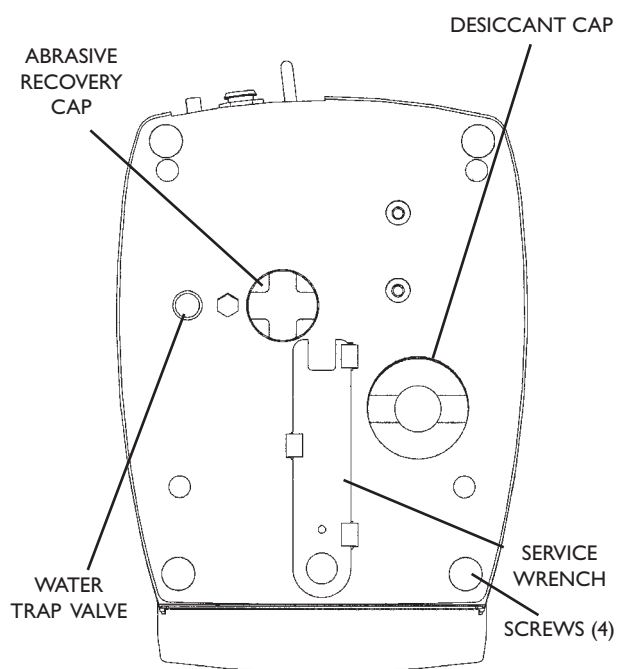
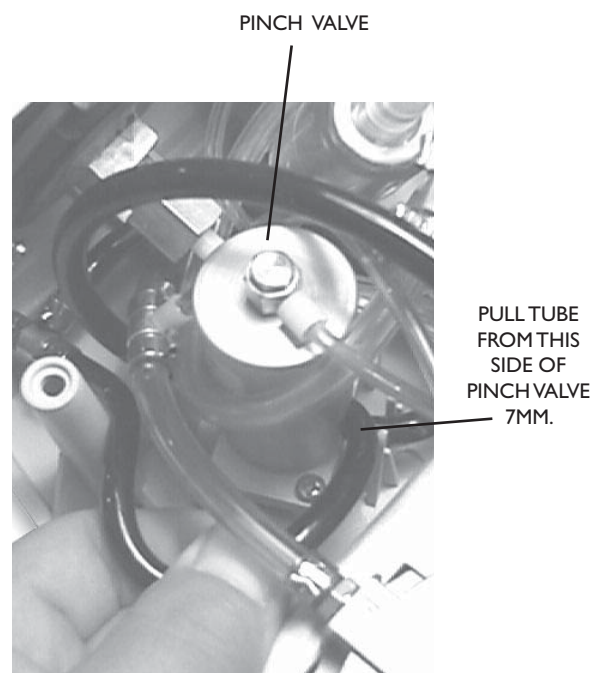

Figure 4.3
Figure 4.4
A. Desiccant chamber: Inspect the desiccant granules through the view window located in the bottom of the unit (see Fig. 4.3). The blue indicator granules will turn white when contaminated.
C. Waste Powder Chamber: Unscrew the Abrasive Recovery Cap (see Fig. 4.3) using the Service Wrench. Remove any abrasive from the chamber, clean the threads and replace the cap. Do not over tighten.
D. Moisture trap: Very minimal, or no moisture should be found. While the PrepStart is pressurized and held in a horizontal position, depress the trap stem (see Fig. 4.3) with a finger tip: compressed air, and any moisture will be expelled. If more than a few drops of moisture are found, additional water traps and filtration, may be necessary.
3. Remove the four Philips head screws in the underside of the PrepStart (see Fig. 4.3).
5. The pinch valve is an aluminum cylinder near the outlet port (see Fig. 4.4). Two black plastic tubes passing through (see Fig. 4.3) the cylinder are the pinch tubes. The pinch spot is renewed by pulling both tubes with pliers, about 7mm toward the rear of unit.